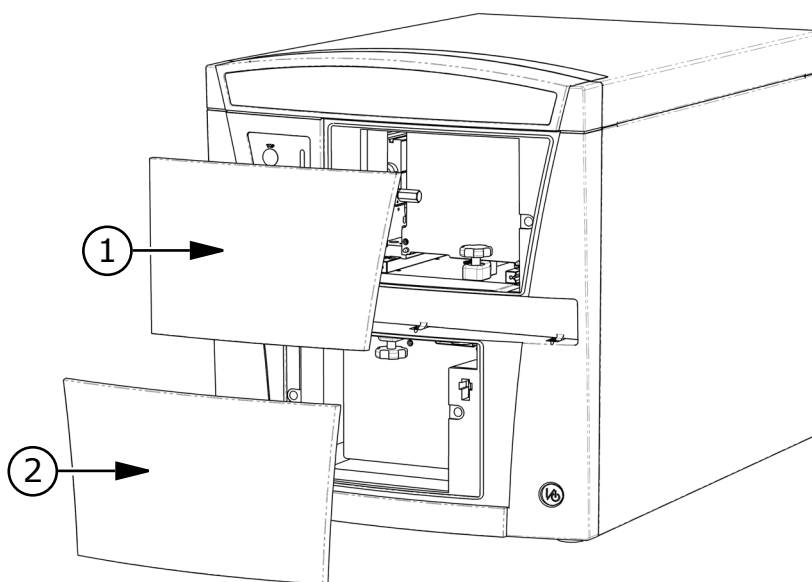

Figure 1-4 Removing the Front Covers
1. Firmly pull on the top front cover to remove it and then set it aside (Figure 1-4). The front cover is held on to the front of the instrument by powerful magnets.
2. Firmly pull on the bottom front cover to remove it and then set it aside (Figure 1-4). The front cover is held on to the front of the instrument by powerful magnets.